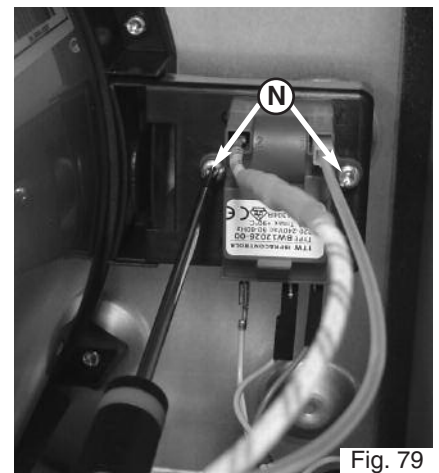

Fig. 79
4. Remove the two screws **N** from the ignitor and remove (Fig. 79);